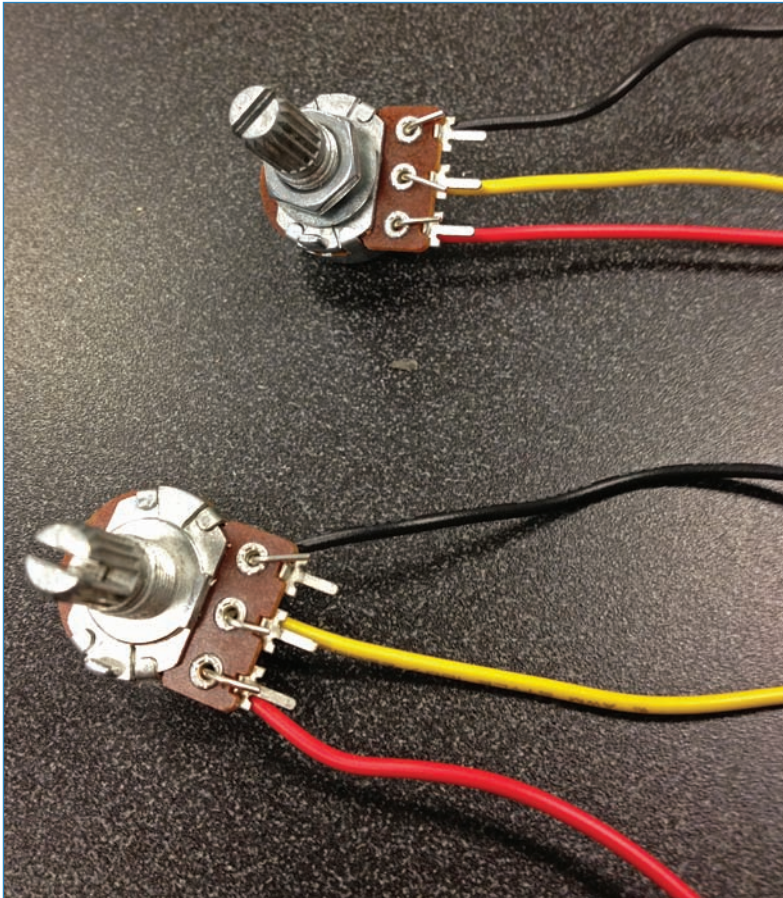

FIGURE 10.15 Wire up the potentiometers as you see here.
6. Let's start wiring! Solder wires to the potentiometers as shown in Figure 10.15—you did this in Chapter 3, "How to Solder." Don't make the wires too long! About 5" of wire should do the trick. Do the same with the switch, and then attach the three components to the top panel.